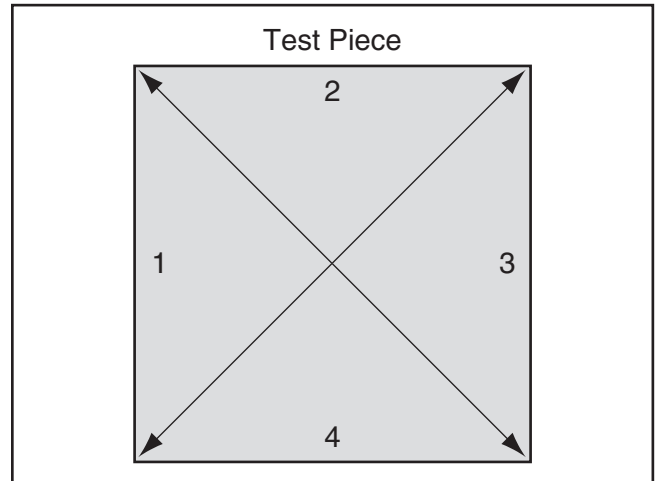

Figure 127. Crosscut fence adjustment test piece.
2. Prepare the test piece by cutting it to a dimension of 32" x 32", then number all four sides, as illustrated in **Figure 127**.
4. Measure the test piece diagonally from corner to corner, as illustrated in **Figure 127**.